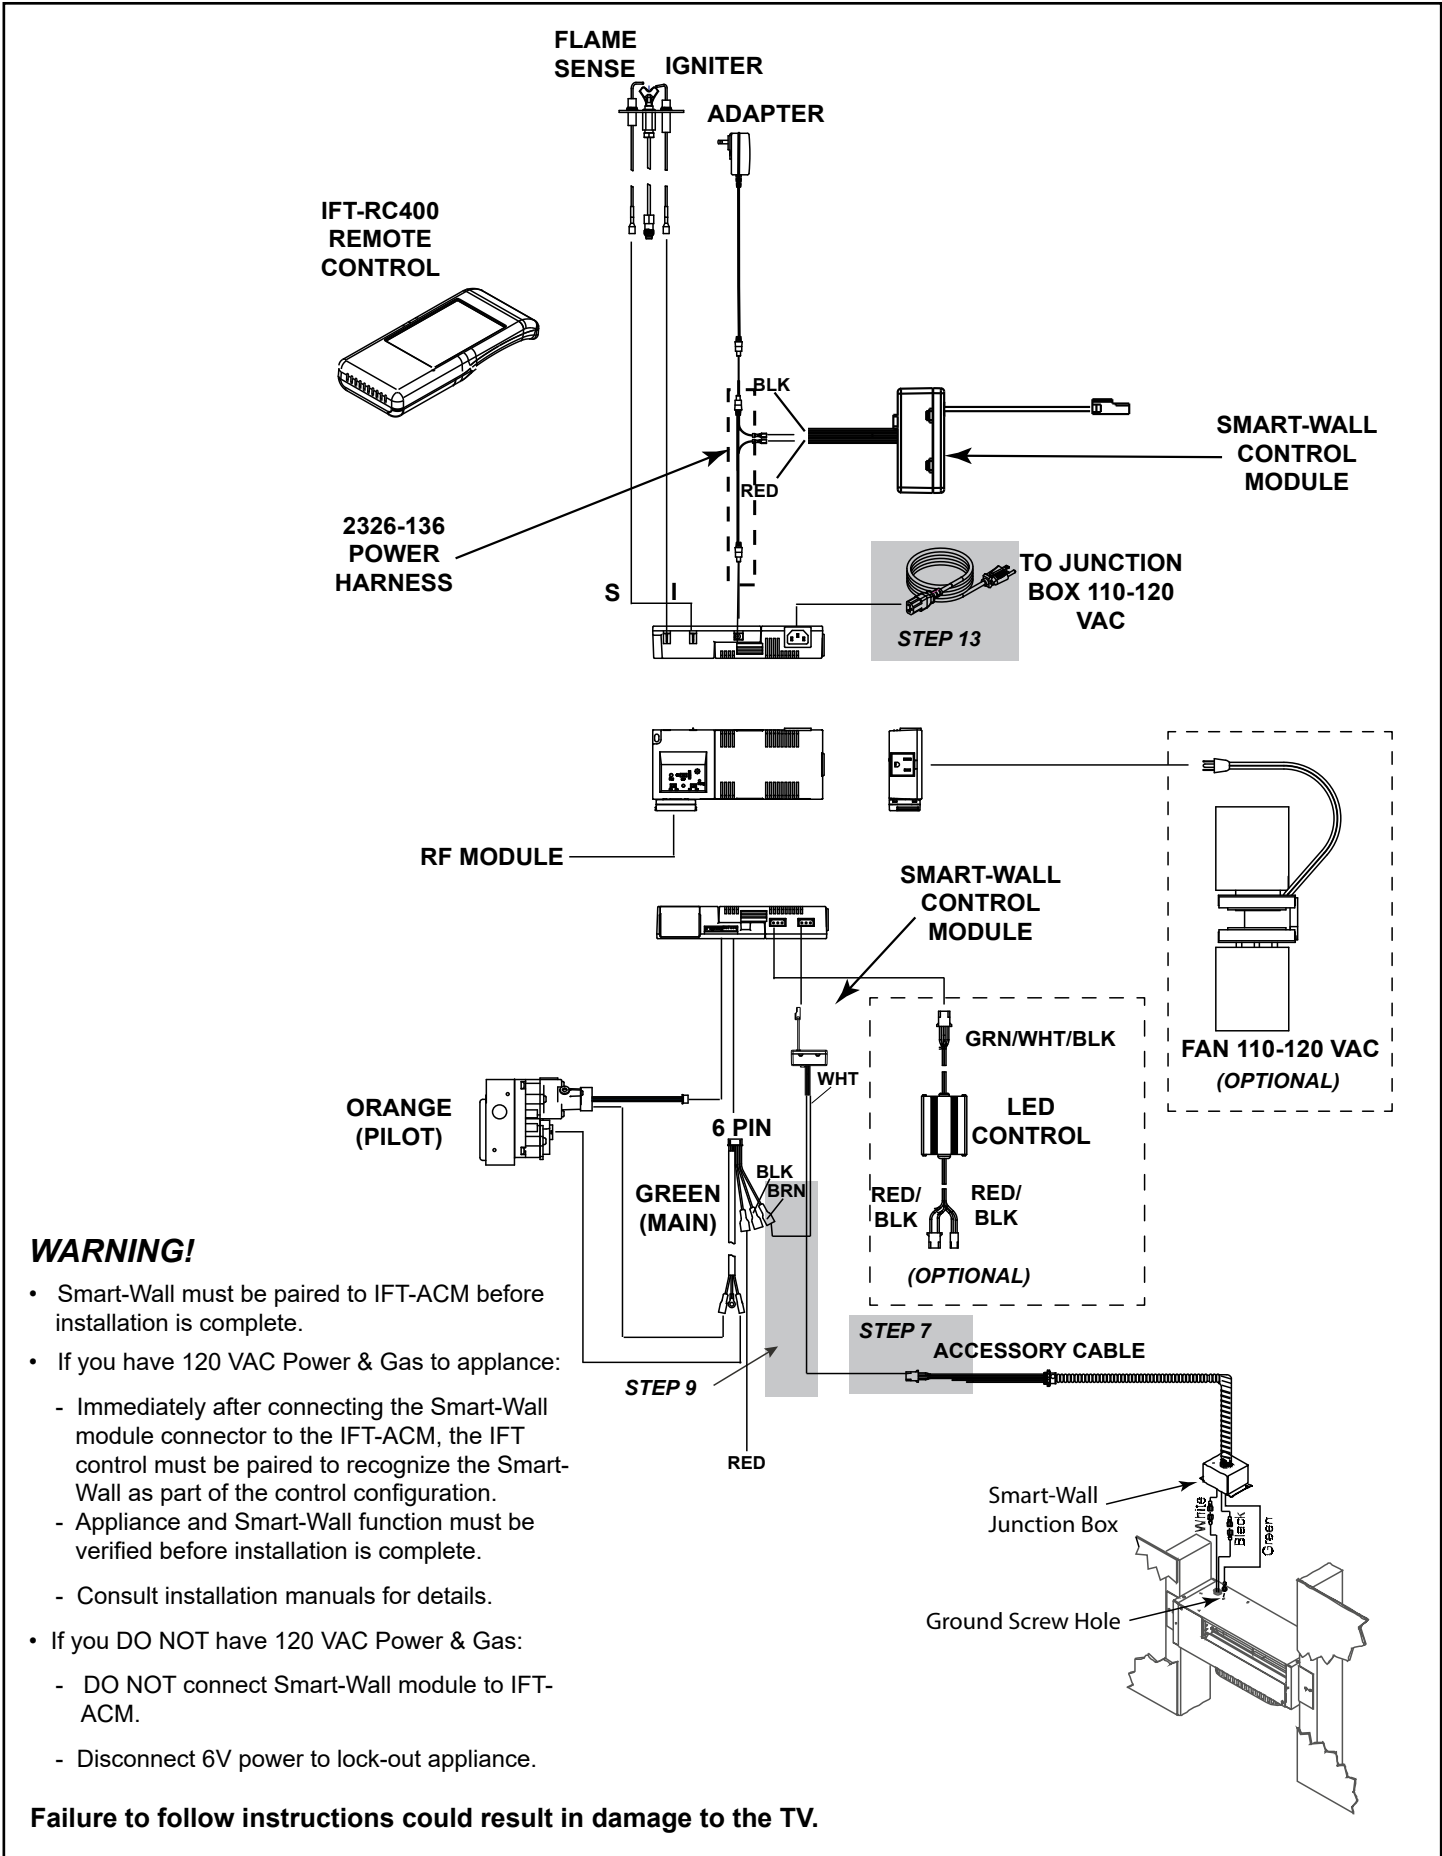

Figure 10. IFT-RC400 Wiring Diagram with Smart-Wall
9. Connect the white (neutral) and black (hot) wires from the accessory cable to the corresponding wires on the Smart-Wall blower assembly. Connect the ground wire eyelet to the Smart-Wall housing using the green screw provided. See Figure 10.
6. Refer to wiring diagram with the Smart-Wall to make remaining connections. See Figure 10.